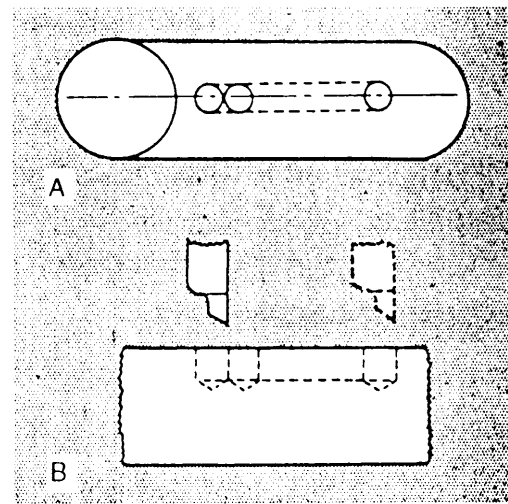

Figure 9-9.—Cutting a keyway in the middle of a shaft.
**SHAPING KEYWAYS IN SHAFTS.**—Occasionally, you may use a shaper to cut a keyway in a shaft. Normally, you will lay out the length and width of the keyway on the circumference of the shaft. A centerline laid out along the length of the shaft and across the end of the shaft will make the setup easier (fig. 9-9, view A). Figure 9-9 also shows holes of the same diameter as the keyway width and slightly deeper than the key drilled into the shaft. These holes are required to provide tool clearance at the beginning and end of the cutting stroke. The holes shown in figure 9-9 are located to cut a blind keyway (not ending at the end of a shaft). If the keyway extends to the end of the shaft, only one hole is necessary.
1. Lay out the centerline, the keyway width, and the clearance hole centers, as shown in view A of figure 9-9. Drill the clearance holes.
3. Adjust the stroke and the position of the ram so the forward stroke of the cutting tool ends at the center of the clearance hole. (If you are cutting a blind keyway, be sure the cutting tool has enough clearance at the end of the return stroke so the tool will remain in the keyway slot.) (See view B of fig. 9-9.)